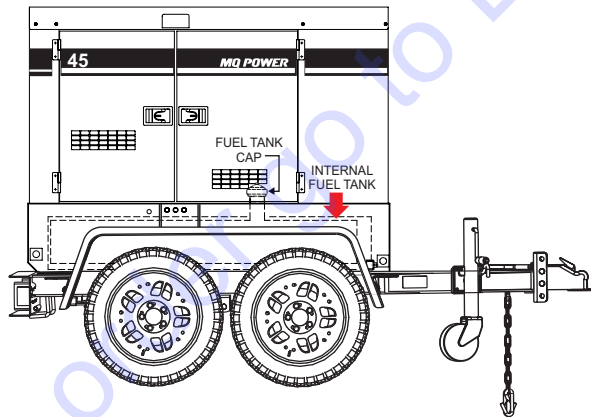

Figure 30. Fuel Tank
**ALWAYS** fill the fuel tank (Figure 30) with clean, fresh #2 diesel fuel. **DO NOT** fill the fuel tank beyond its capacity.